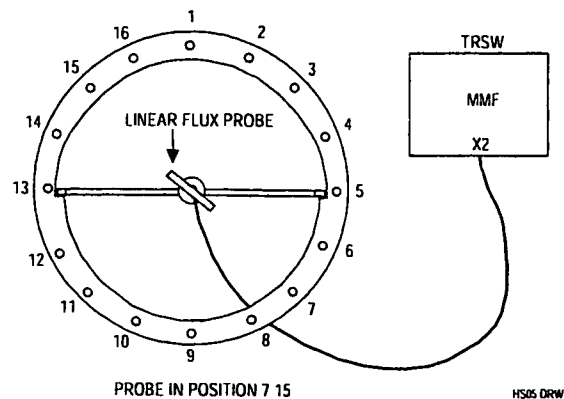

Figure 27 Frequency adjustment mode 7 - 15
17. Position the flux probe in position 7-15 (Figure 27).